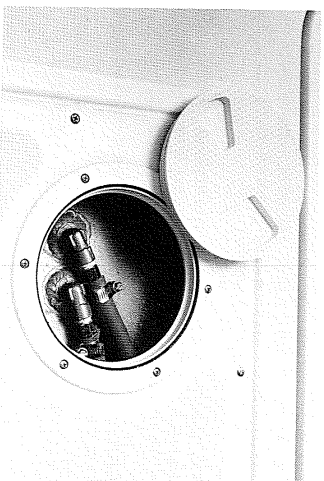

Figure 14
2. **WARNING: Do not operate the boat when fuel fumes are present. Fuel fumes are dangerous and harmful to your health.** Check the fuel compartment for fuel leaks and fumes. Make sure all fuel lines and fittings are tight. See figure 14.